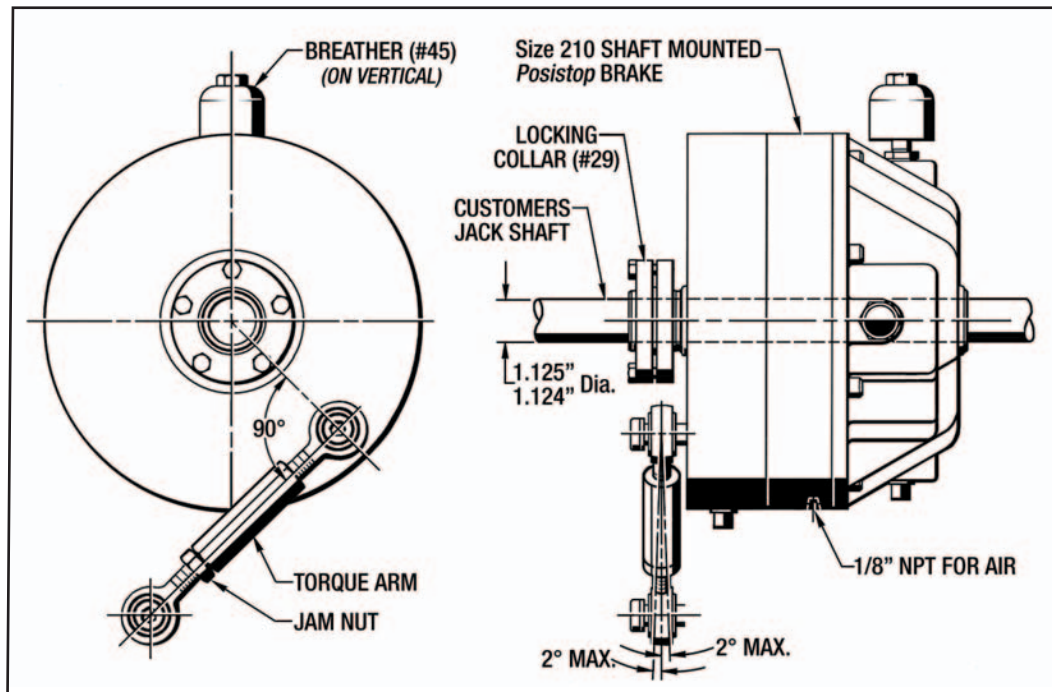

Figure 3.1 - 210 Shaft Mounted Brake Installation
(See Figure 3.1)
7. Attach the Torque Arm as shown in Figure 3.1. Adjust the turnbuckle so the Air Breather (#45) is on the vertical center line.
Please Note: The maximum allowable angular misalignment is $\pm 2^\circ$ as shown in Figure 3.1.